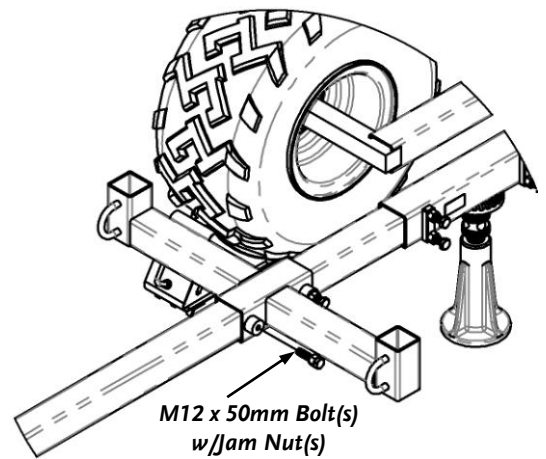

Figure 17
2. Install and tighten two M12 x 50mm Bolts and Jam Nuts with an 18mm Socket for the Bolts and an 18mm Wrench for the Nuts (**Figure 17**).